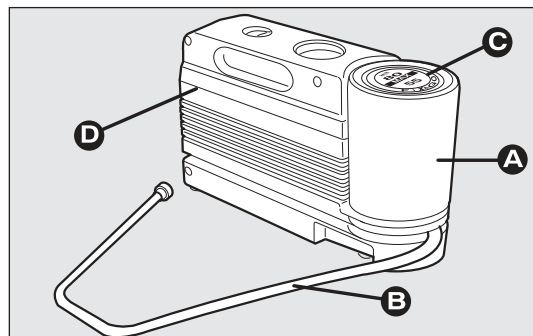

fig. 150
The kit fig. 150 includes:
- ☐ compressor D-fig. 150 including gauge and connections;